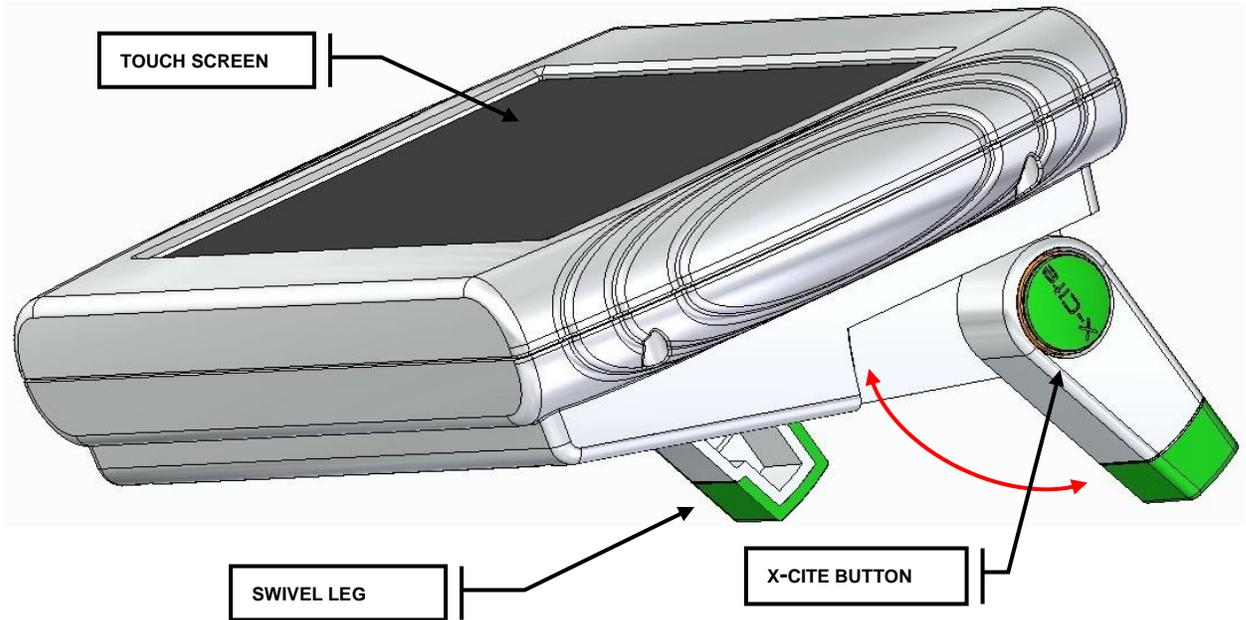

Figure 3 Touch Screen Controller
- 3.3.1 The optional Touch Screen Controller has a stand made up of two separate extendable legs that swivel out from the back of the Touch Screen Controller. Refer to Figure 3.